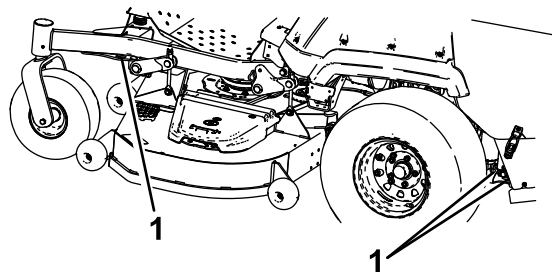

Figure 32
6. Tie down the machine near the front caster wheels and the rear frame with straps, chains, cable, or ropes (Figure 32). Refer to local regulations for tie-down requirements.